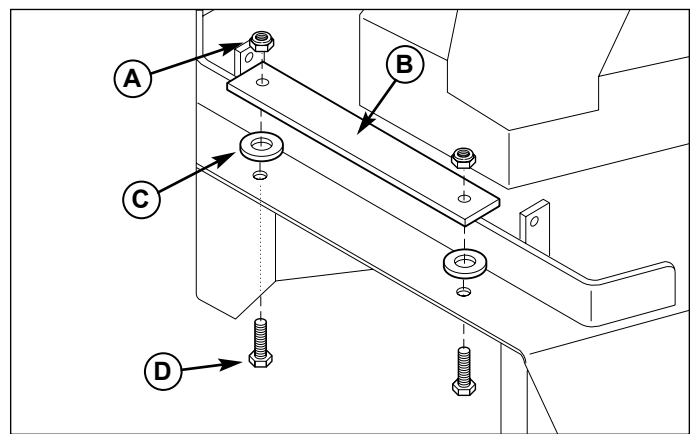

Figure 8. Install Quick Connect Bar
5. Install the spacers (C, Figure 8) and mount bar (B) on the mower deck and secure with the 5/16-18 x 1-1/4" bolts (D) and 5/16-18 nylon lock nuts (A).